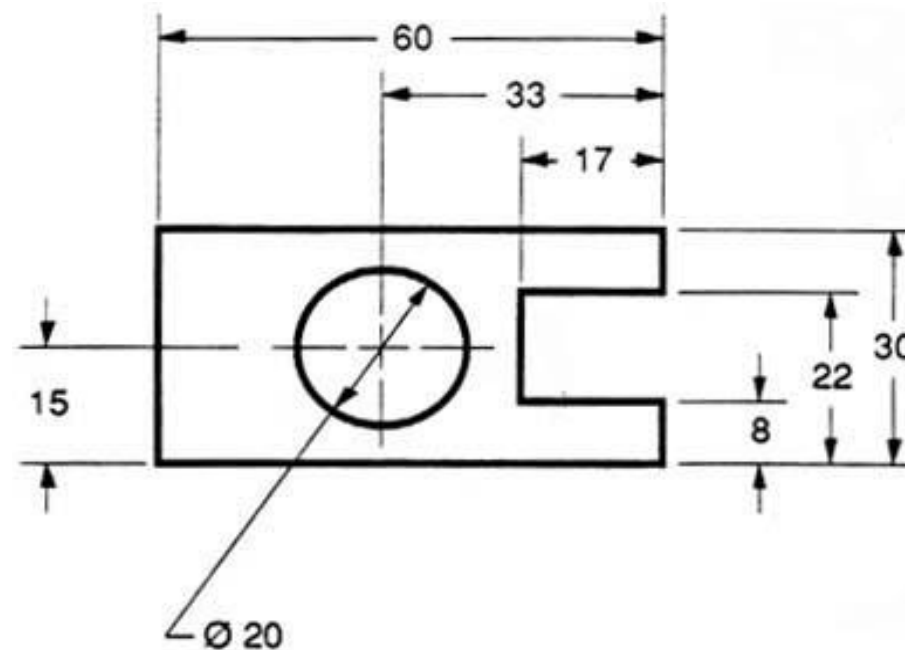

Figure 29 - Exampled of a dimensioned hole
- In figure 29 we have shown a hole that we have chosen to dimension on the left side of the object. The \varnothing stands for "diameter".